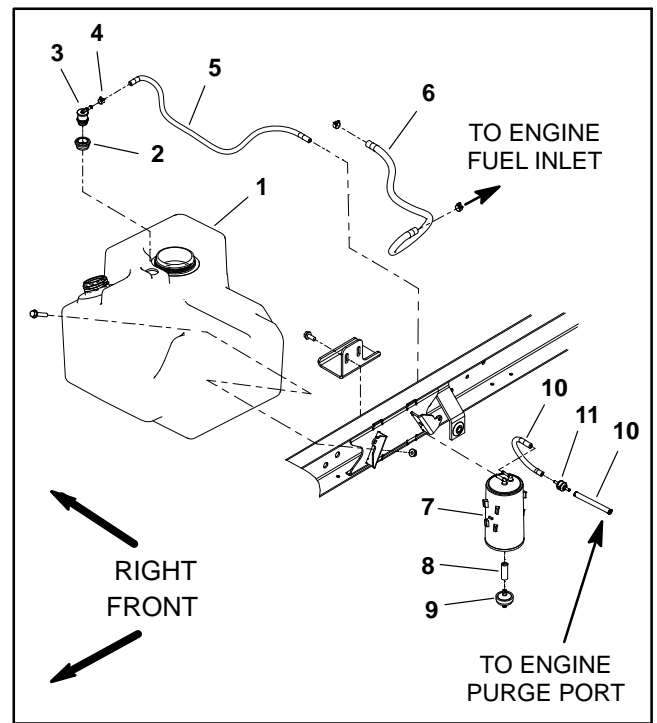

Figure 12
B. If vacuum check valve (item 11 in Fig. 12) is removed, note direction of arrow on valve body for assembly purposes.
A. If vacuum check valve (item 11 in Fig. 12) was removed, make sure that arrow on valve body points toward engine.